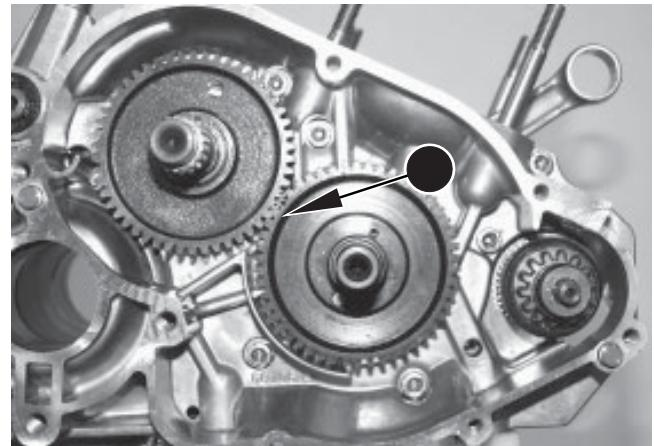

Fig. 78
- ⇒ Position the balance drive gear wheel on the crankshaft and locate the cutout in the gear wheel on the Woodruff key, see Fig. 78.